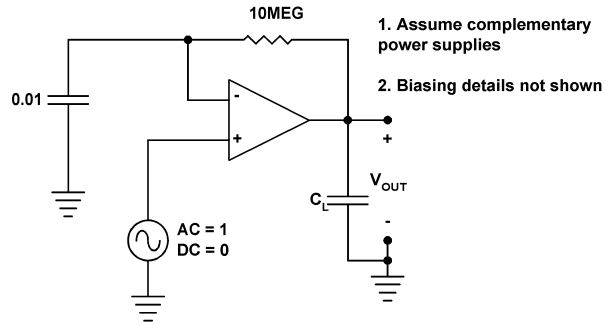

Fig. 2. Circuit for measuring an amplifier's AC response.
- B. Preliminary: Edit the '.sp' file so the amplifier's open loop gain can be measured. Use the configuration shown in Fig. 2. Additionally you must add an AC sweep statement like this one